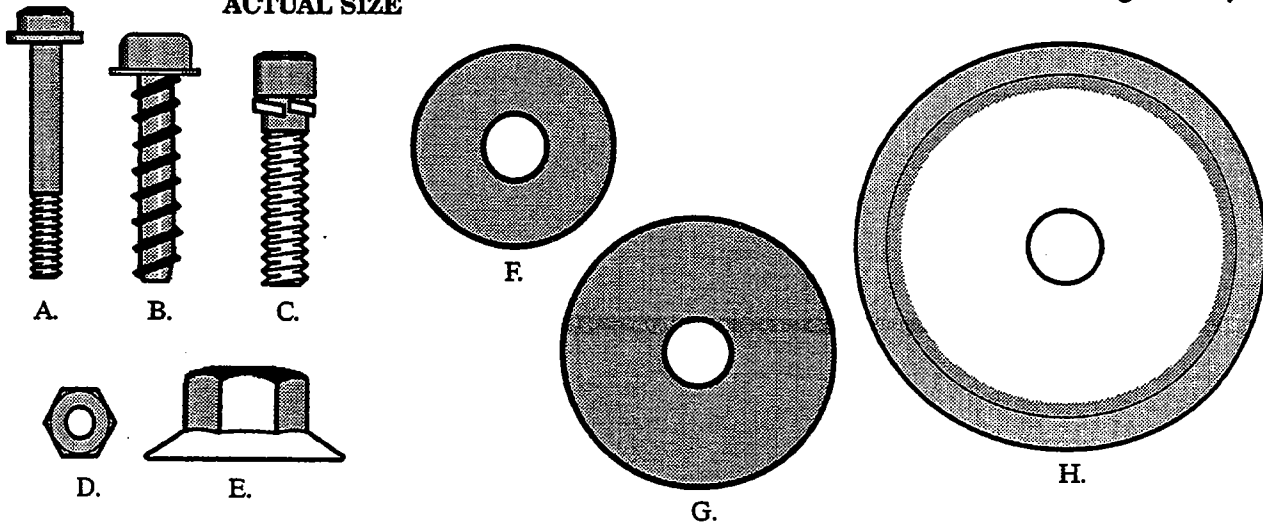

Figure 1
**NOTE:** Hardware referred to in the following sections are shown in actual size in Figure 1.